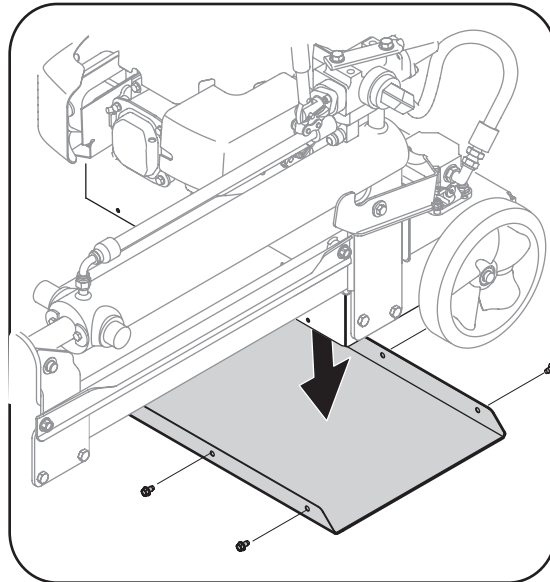

Figure 5-1
1. Place the unit in the transport position on level ground as shown in Figure 5-1.
4. Remove the belt cover by removing the six self-tapping screws that fasten it to the frame. See Figure 5-1.